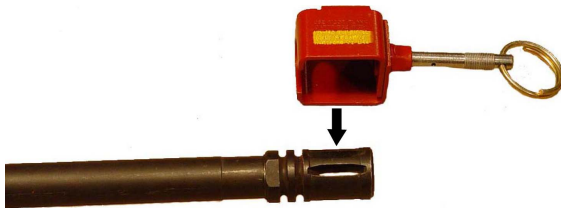

Figure 3-43. Compensator with M15A2 BFA
2. Hook the BFA behind first groove of compensator. Refer to Figure 3-43.